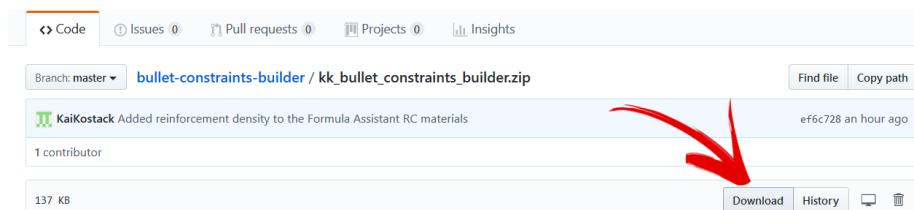

Figure 4
On the next page, Figure 4, click “Download” and save the file on your computer.
2. Start Blender and click “File” (Figure 4) (1.) on the left upper corner of the Blender interface, in the fly-out menu find “User Preferences” (2.) and click that as well.